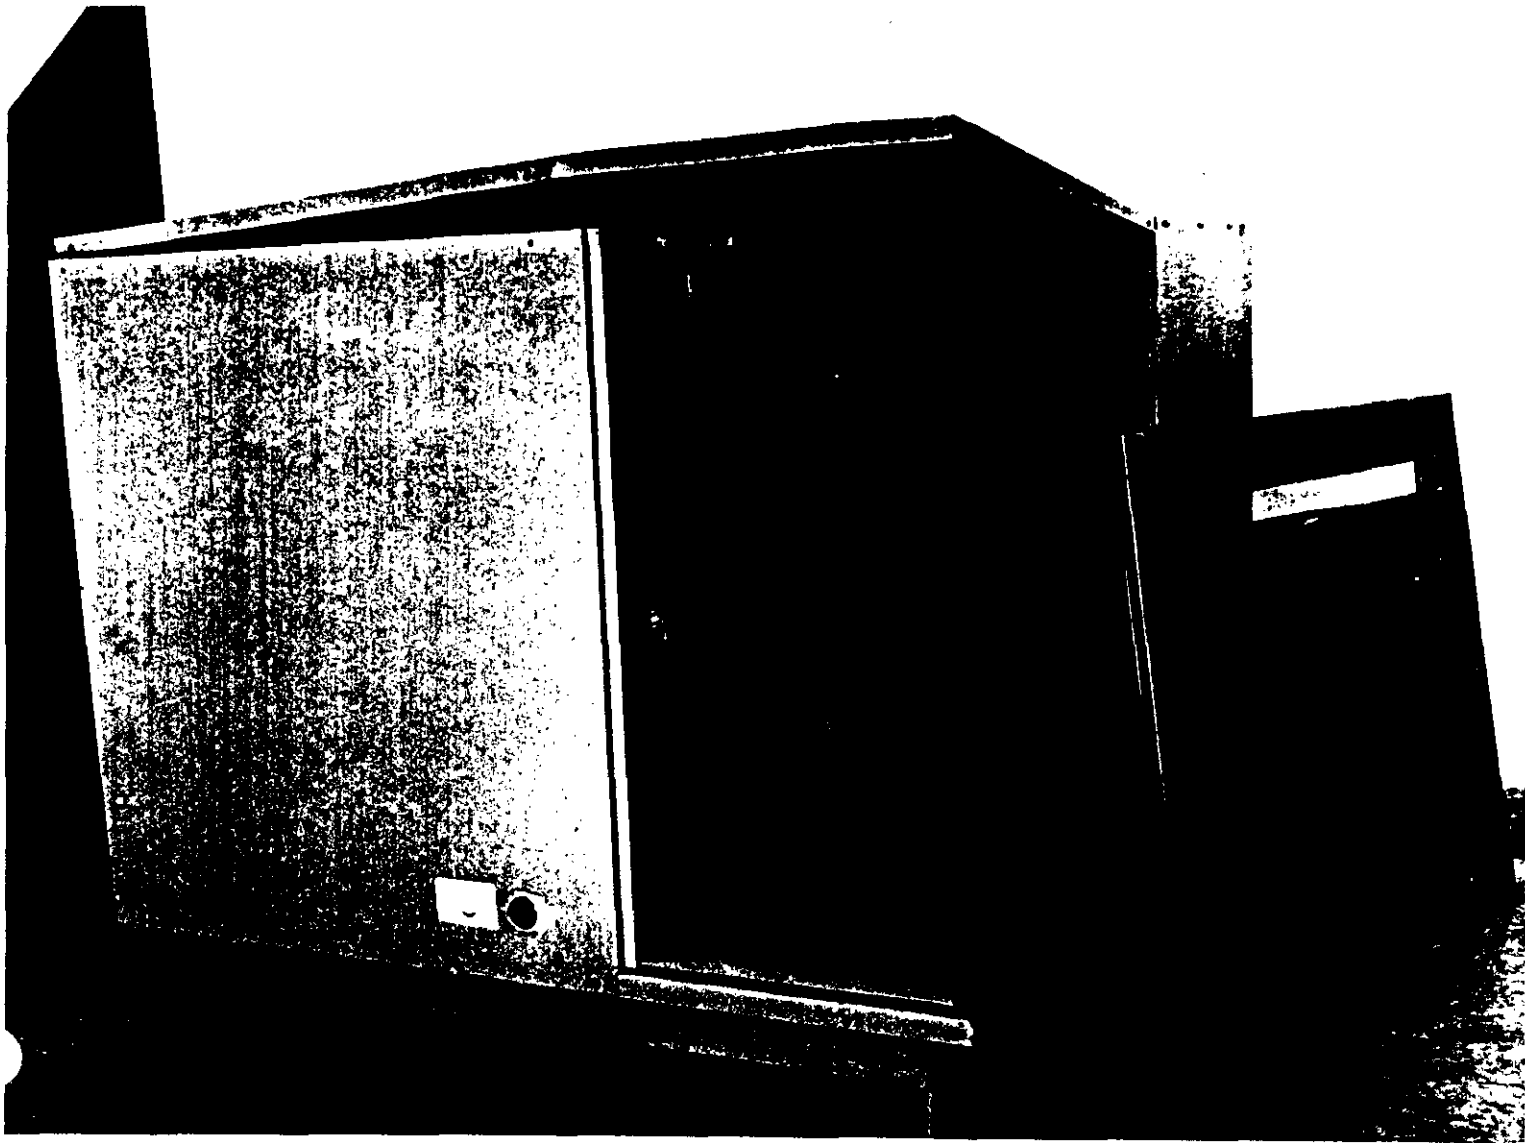

Figure 2.
5. Raise the free corner of the top taking care not to damage (bend or buckle) it. (See Figure 2) Slide the top filter rack subassembly into the unit over the evaporator coil. Position the rack over the coil as shown in Figure 3.